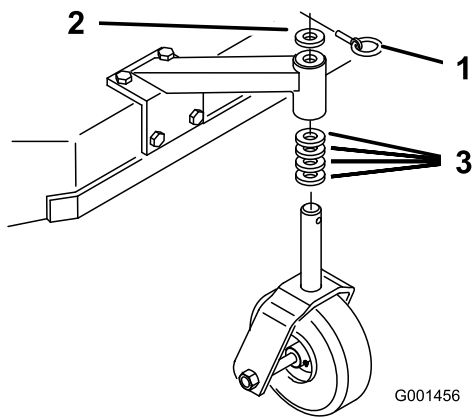

Figure 20
1. Using the Height-of-Cut Chart, adjust the caster spacers to match with the axle hole selected (Figure 20).
- Remove the latch pin, slide the caster from the support, and change the spacers (Figure 20).
- Install the caster in the support and insert the latch pin (Figure 20).